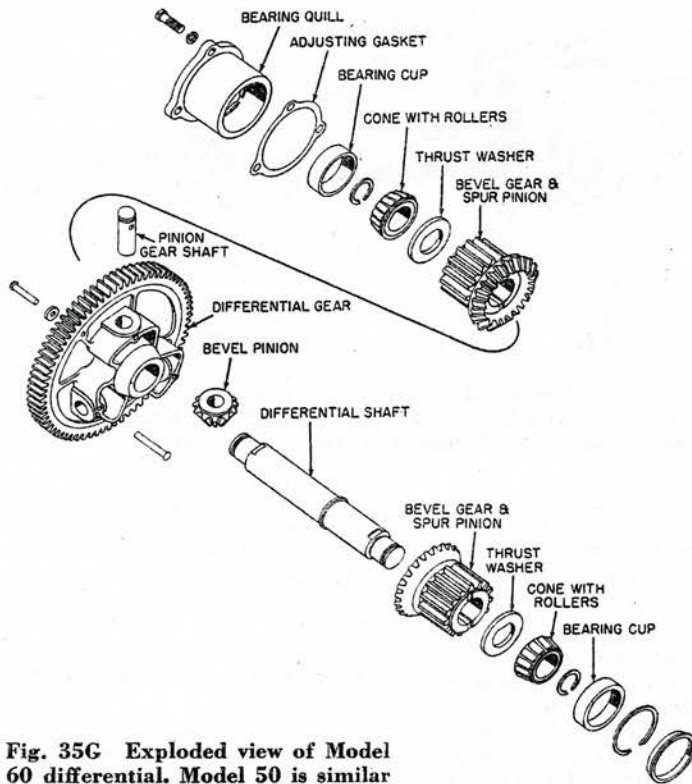

Fig. 35C Exploded view of Model 60 differential. Model 50 is similar
**ASSEMBLY**—Referring to Figs. 35C and 35D, assemble as follows: